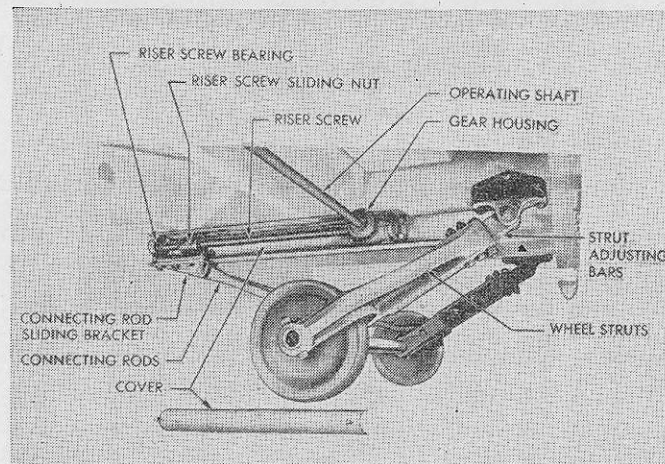

FIGURE 13.—Dolly of trailer.
b. At least four short planks are carried with the unit as a part of its equipment. Remove these planks from the stowage compartment and place two of them under the dolly wheels. (See fig. 13.)